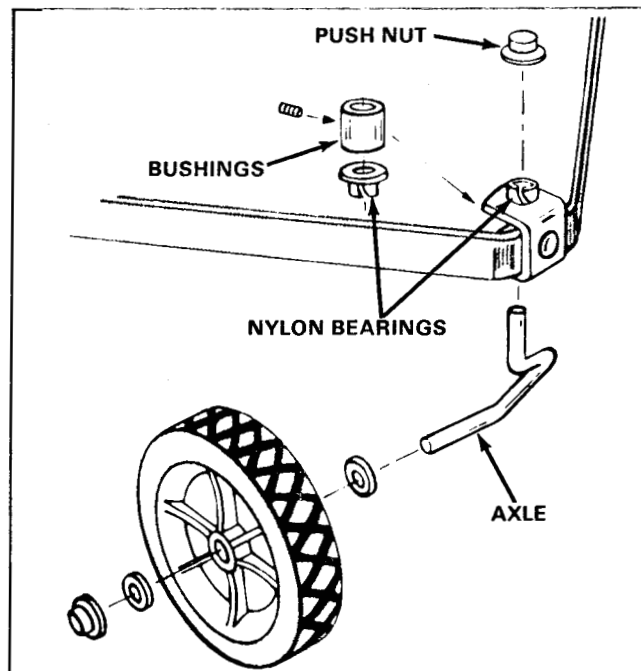

Figure 140
11. See Figure 140. Assemble the gauge wheel and axle to the wheel mount bracket as follows: slide one 1/2" ID flat washer on to the short end of axle, followed by the gauge wheel, with hub facing out, and another 1/2" flat washer, and then "tap" the push nut on the shaft with a hammer.